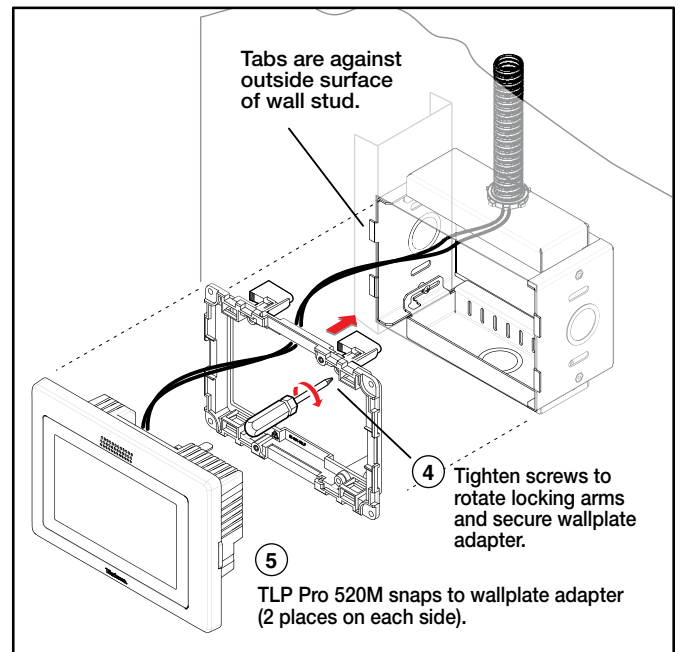

Figure 6.
4. Tighten the screws on the front of the wallplate adapter to rotate and tighten the locking arms behind the top and bottom plates of the back box and hold the wallplate adapter in place (see figure 6). Do not overtighten the screws.
5. Snap the touchpanel into position (see figure 6).